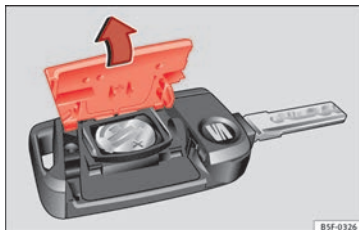

Fig. 132 Vehicle key: opening the battery compartment.
- Remove the cover from the back of the vehicle key **Fig. 132** in the direction of the arrow **①**.
- Fit the cover as shown **Fig. 132**, pressing it onto the vehicle key casing in the opposite direction to that shown by the arrow until it clicks into place.